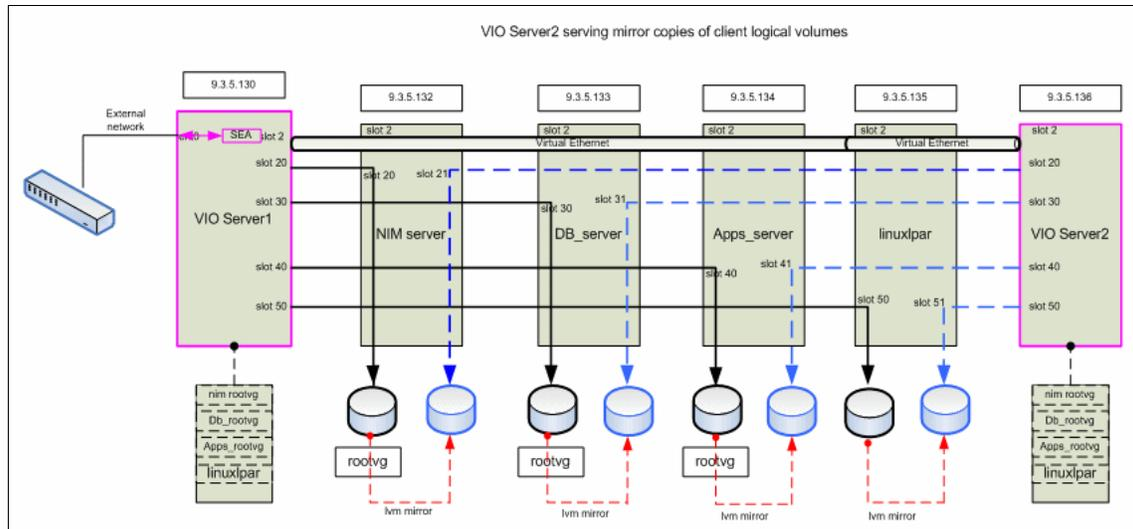

Figure 4-14 LVM mirroring scenario
In this scenario, we had modified our basic configuration and put in a second Virtual I/O Server named VIO\_Server2 that will serve additional disks to our client partitions. Having this setup would satisfy the availability of rootvg through logical volume mirroring on the client side. See Figure 4-14 for an illustration of our logical volume mirroring setup.
4. Based on Figure 4-14 on page 207, create the client virtual SCSI adapters (on NIM\_server, DB\_server, Apps\_server, and linuxlpar partitions) that will be mapped to the virtual SCSI slots on the VIO\_Server2. Refer to 3.4.1, “Creating virtual SCSI server adapters” on page 146 for instructions on how to create virtual SCSI adapters.